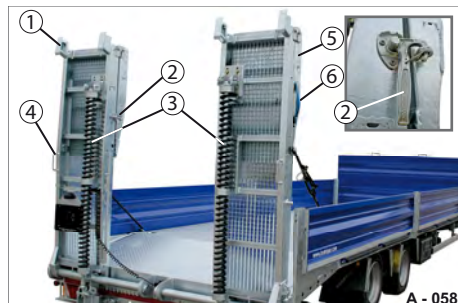
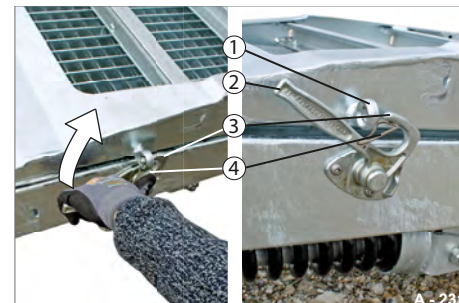

Fig. 93 Drive-up ramps, two-piece
Fig. 95 Unlocking the rotary lever latch
- ▶ Unlock the rotary lever latch (Fig. 93/2): Press in the closing spring (Fig. 95/4) and simultaneously open the lever (Fig. 95/2) fully. The hook (Fig. 95/3) is released. The top section of the ramp is unlocked.